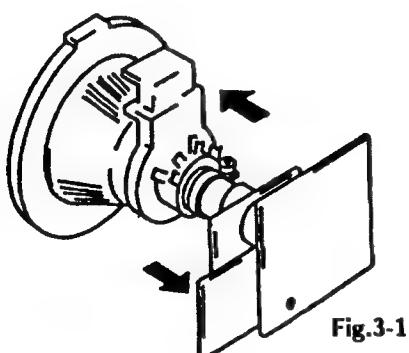

Fig.3-1
(See Figures 3-1 through 3-3.)
- Move the deflection yoke forward and adjust so that entire screen is red. (See Figure 3-1.)